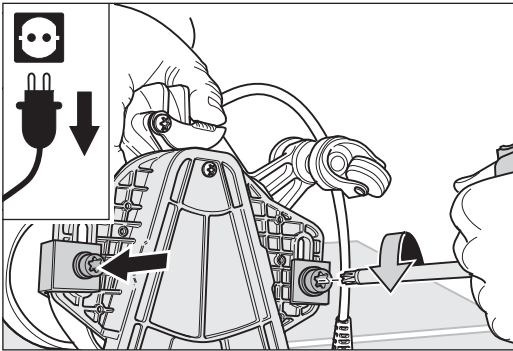

Fig. 30 Undo the two screws that connect the attachment.
- 4 Use the universal spanner to undo the two screws which connect the attachment to the fan housing (Fig. 30).